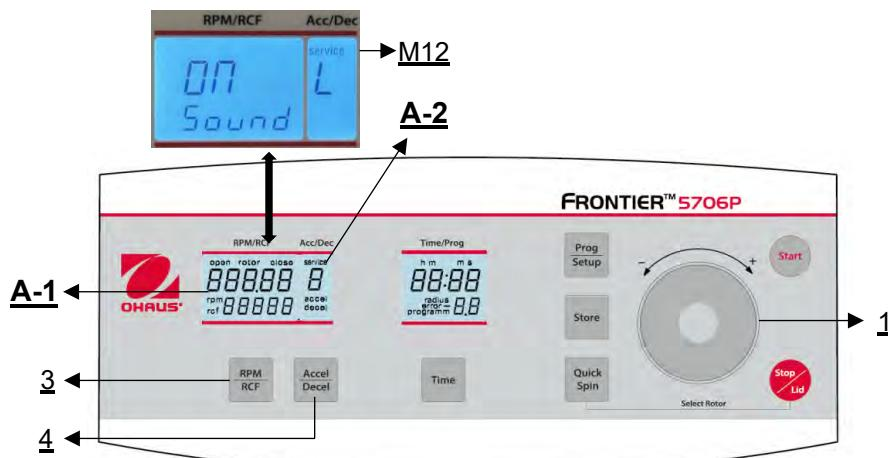

Figure 30
Proceed as described under point 4.1.1 to enter this program mode and then press the key **"Accel/Decel"** (4). In the display **"Acc/Dec"** (A-2) the word **"Service"** (M12) flashes. Now select the letter **"L"** with the touch wheel (1). As a result, the words "On Sound" appears in the display **"RPM | RCF"** (A-1). If you press the key **"RPM | RCF"** (3) now, the word **"On"** flashes and you can switch off the sound with the touch wheel (1) (see **Figure 30**).